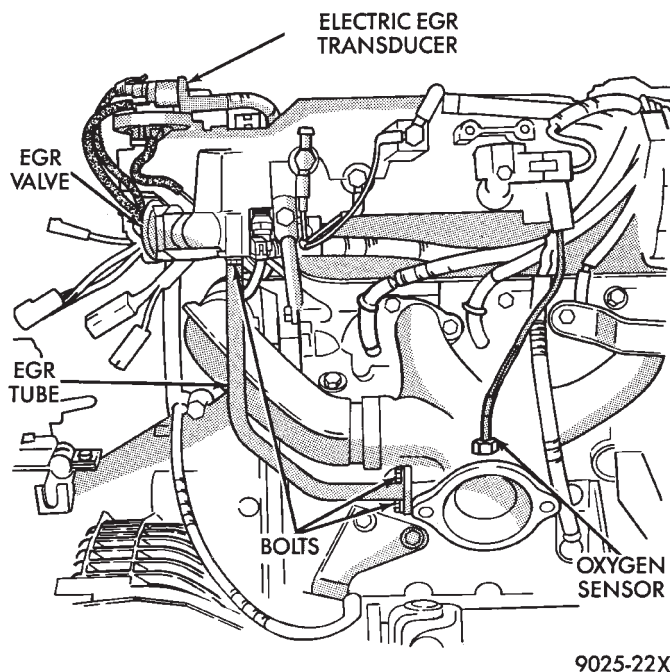

Fig. 17 EGR System—3.3L and 3.8L Engines
- (1) Disconnect vacuum tube from electric EGR transducer (EET). Inspect vacuum tube for damage (Fig. 17).
- (2) Remove electrical connector from EET.
- (3) Remove EGR valve bolts from intake manifold.
- (4) Open EGR transducer clip and remove electric EGR transducer.
- (5) Remove EGR valve from intake manifold.
- (6) Clean gasket surface and discard old gasket. Check for any signs of leakage or cracked surfaces. Repair or replace as necessary.